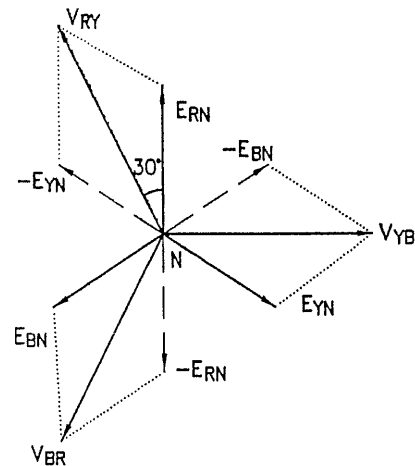

FIG. 2.82 : PHASOR DIAGRAM FOR LINE VOLTAGE AND PHASE VOLTAGES IN STAR CONNECTION
- This is shown in Fig. 2.82. For example, V_{RY} is found by adding E_{RN} and E_{YN} reversed and its magnitude is given by the diagonal of the parallelogram.